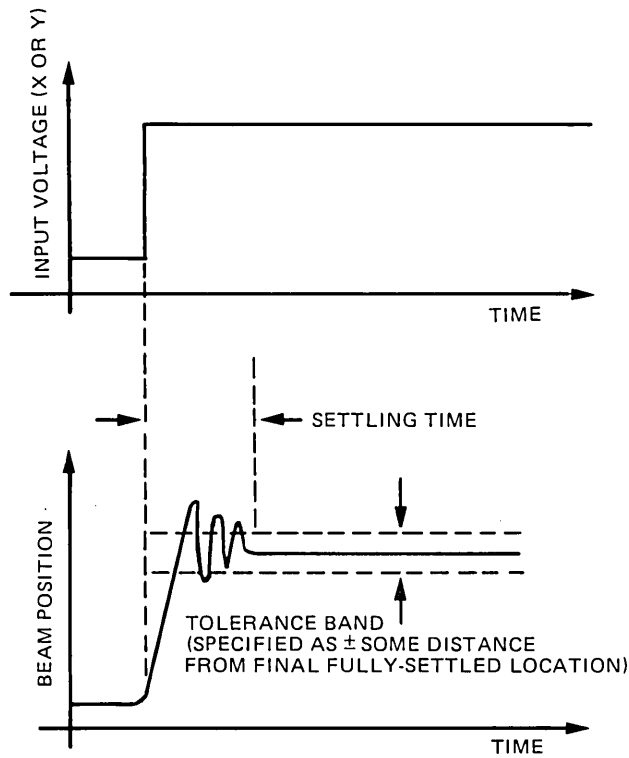

Figure 3-5. Settling Time
**3-25. SETTling TIME.** Settling time is defined as the elapsed time between an input step command and the time for the beam to settle within a specified tolerance to its final position (see figure 3-5). Settling time must be taken into account when moving the beam from one location to another. Otherwise, there may be tails on dots or line distortions at the starting point of vectors.